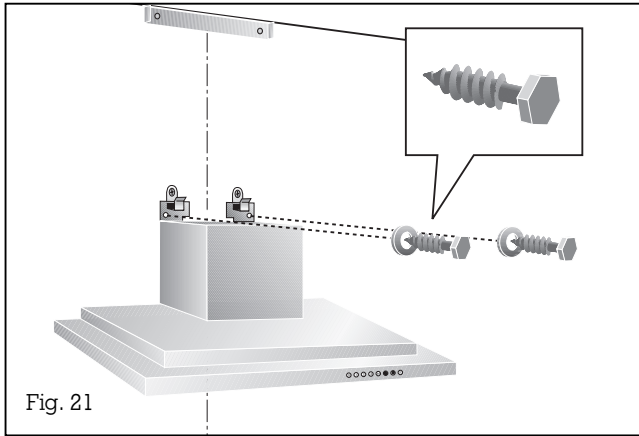

Fig. 21
- Secure the hood on the wall with the four screws **b** (Fig. 21 and 22).